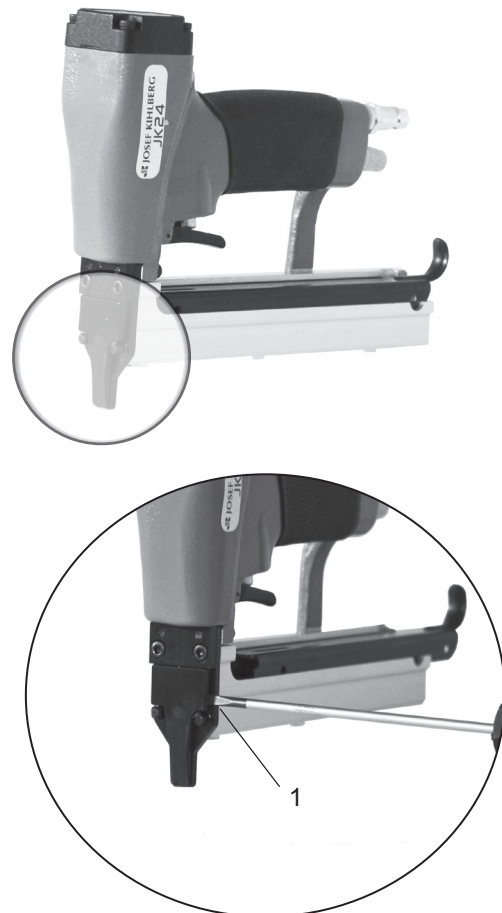

Fig. 5
- Pry the door open with a screw driver (Fig. 5/1) from the left hand side.